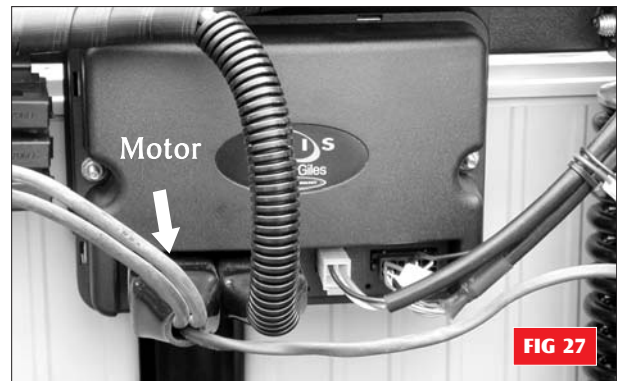

FIG 27
1. Check the 'black' motor drive plug, located under the rear body cover positioned in the main controller module (see Fig 27). Also check status fault codes (page 28)